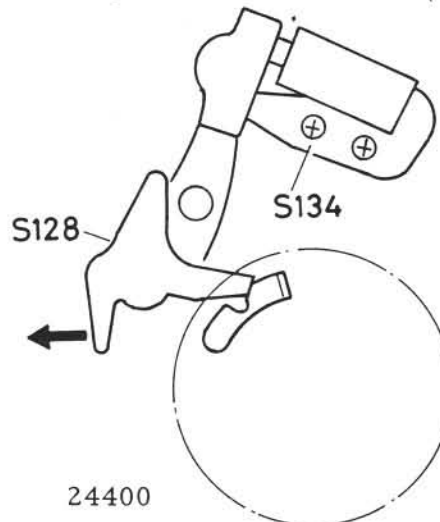

Fig. 20
Make sure that both the curtain gears have been hooked by the curtain hook levers. Refer to Fig. 20.
2. Push the 2nd curtain hook lever (S128) in the arrow direction to obtain the firm engagement of S128 with 2nd curtain gear as shown in Fig. 20.